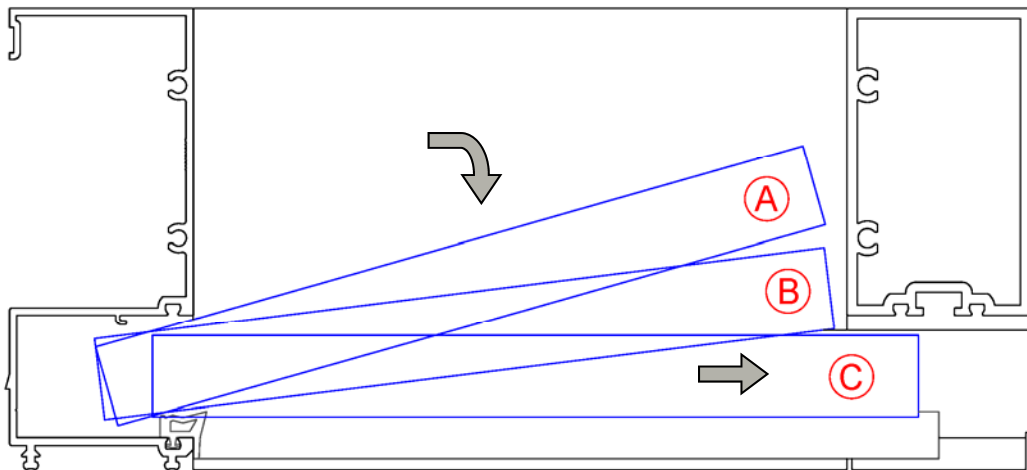

Figure 34
- Using suction cups, gently insert a glass edge (or other glazing infill) into the deep pocket of the vertical mullion. (see figure 34, position A)
- Swing the opposite edge of the glazing in plane with the SSG pocket of the adjacent vertical mullion, and lower the glazing onto the setting blocks. (figure 34, position B and C)